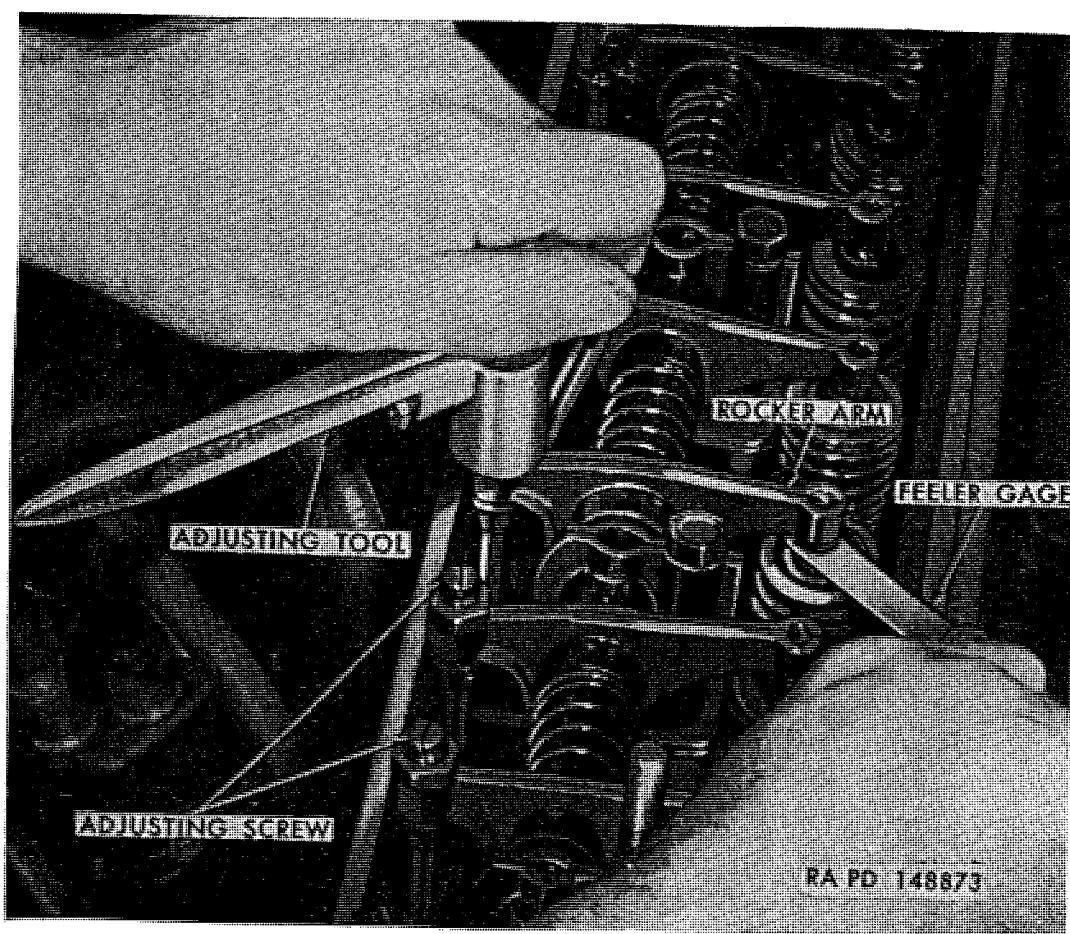

Figure 95. Valve clearance adjustment with tool 41-T-3380-60.
d. Use feeler gage to check clearance between rocker arm pad and end of valve stem or rotator cap as shown in figure 95.
Correct clearance is 0.012 inch for intake valves and 0.020 inch for exhaust valves. Using tool 41-T-3380-60 (fig. 95), loosen jamnut on rocker arm adjusting screw and turn screw to obtain clearance, then tighten jamnut to lock the adjustment. Recheck clearance after tightening each jamnut.